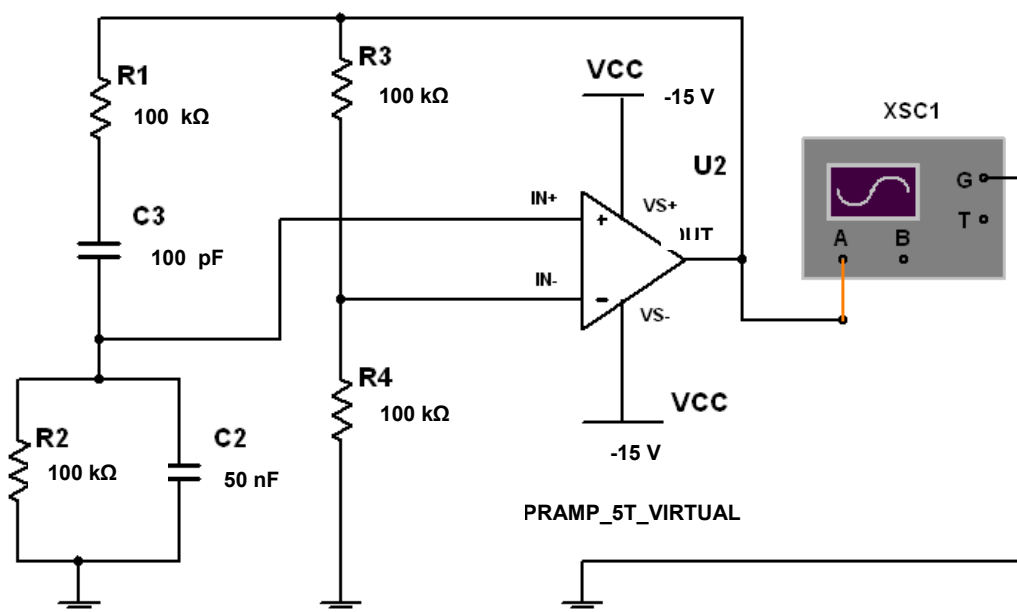

FIGURE 7.3 – Wien bridge oscillator
- 7.7 Calculate the resonant frequency of the Wien bridge oscillator shown in FIGURE 7.3.